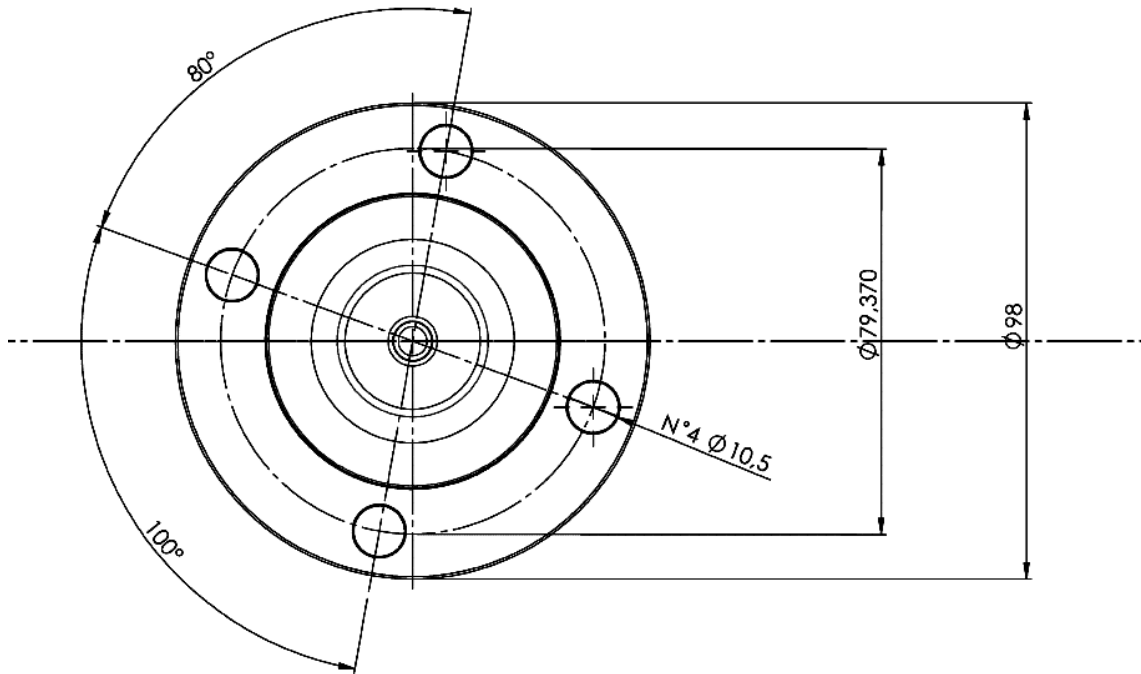

Figure 10: Spicer 1300 adapter flange
- b. Spicer 1300 Flange: A 947 260 04 17 (See Figure 10 for the dimensions)
- Spicer 1300 Flange Kit: A 947 260 06 17 (See Figure 10 for the dimensions)